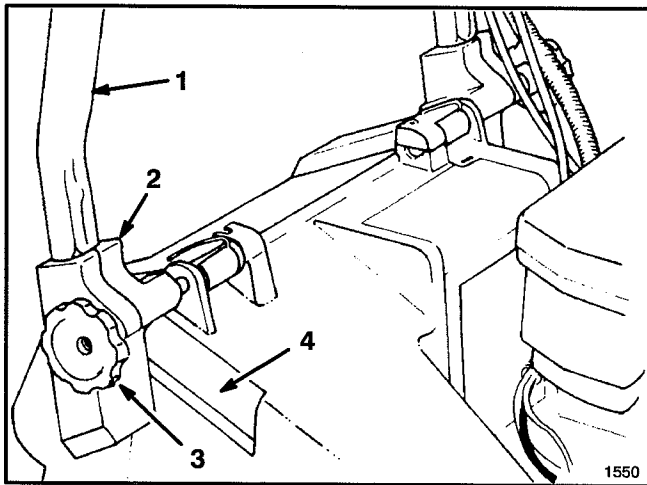
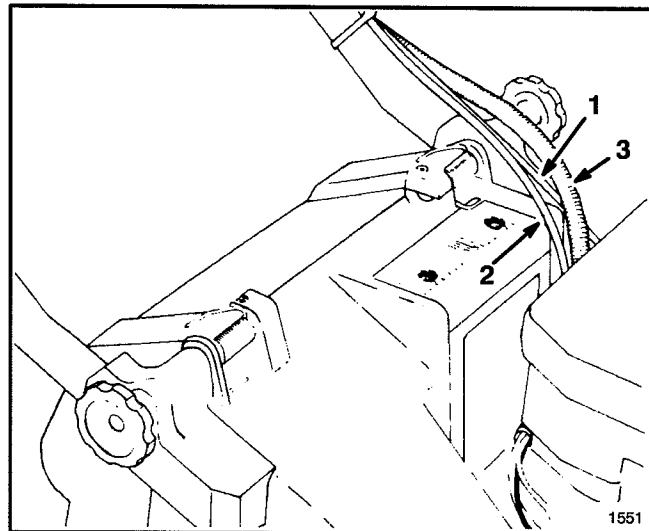

Figure 1
Figure 2
1. **INSTALLING HANDLE**—Loosen knobs on mounting brackets (Fig. 1).
3. Slide handle ends into holes in mounting brackets until handle ends are completely seated in brackets (Fig. 1). Make sure throttle cable, electric start cable and traction cable rest on top of left mounting bracket (Fig. 2).
4. Rotate handle and brackets rearward until brackets fit securely into housing pockets (Fig. 2).